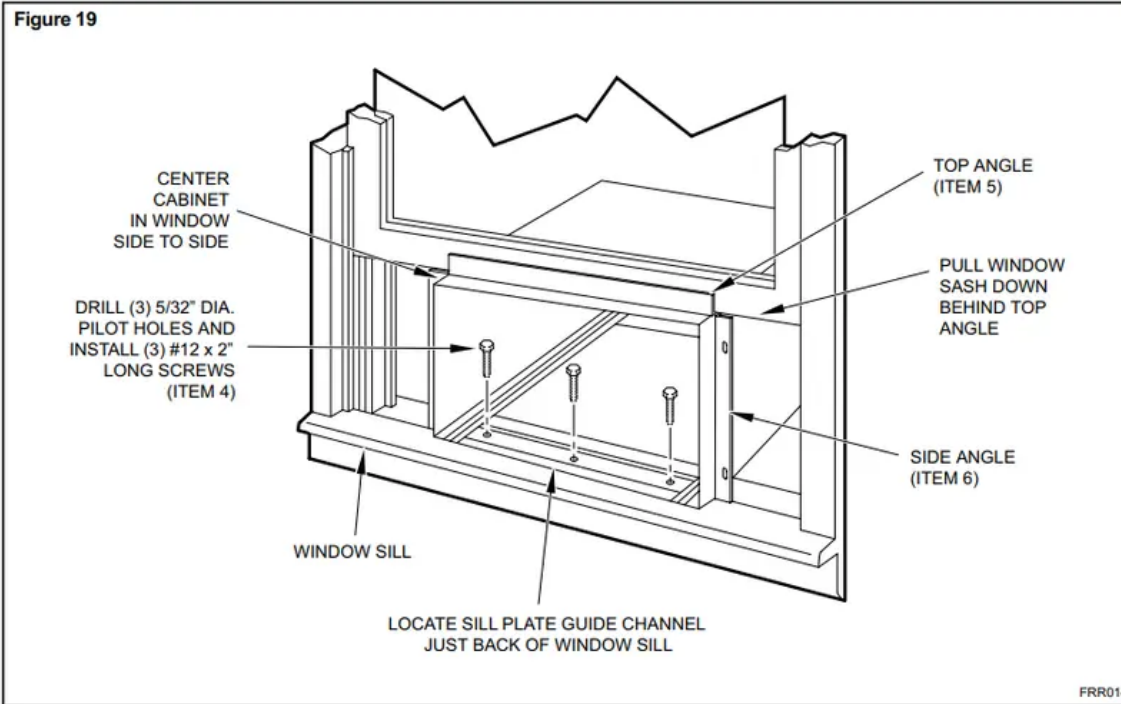

Figure 20
**OUTSIDE SUPPORT MOUNTING** – Refer to Figures 20 and 21. Assemble the support brackets (Item 1) to the bottom of the cabinet with four (4) 10-24 1" long screws (Item 2) and four 10-24 flat nuts (item 3 ). Adjust the support brackets, using a combinations of the elongated holes of the bracket and different hole locations in the cabinet, to bring the bottom support bracket pads in contact with the wall. A 1" x 4" or 2" x 4" SPACER SHOULD BE USED BETWEEN THE WALL AND SUPPORT THE BRACKETS WHEN INSTALLED ON ALUMINUM OR VINYL SIDING. Drill 5/32" diameter pilot holes and secure the brackets to the wall with two (2) 12A x 2" long screws (Item 4)
Adjust the support brackets to provide an inside-to-outside slope for excess condensation drainage (Refer to Standard Window Installation, Figures 20 through 24). Tighten all screws.